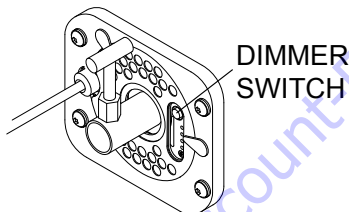

**Figure 13. Connecting to Power Source**
1. Connect the AC power cable to the 120 VAC receptacle on the generator used. See Figure 13.